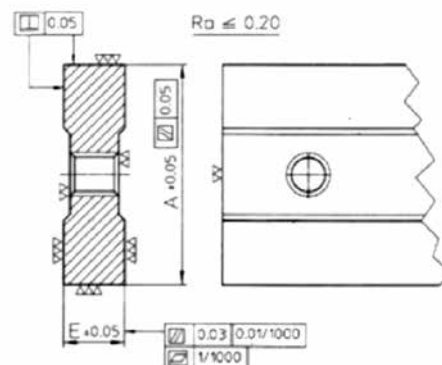

Fig: 1 Shear blade (Usual conditions in shear blades)
- The usual conditions (parallelism, scantling, ...) that has to be obtained after the sharpening are showed in the drawing (Fig 1).